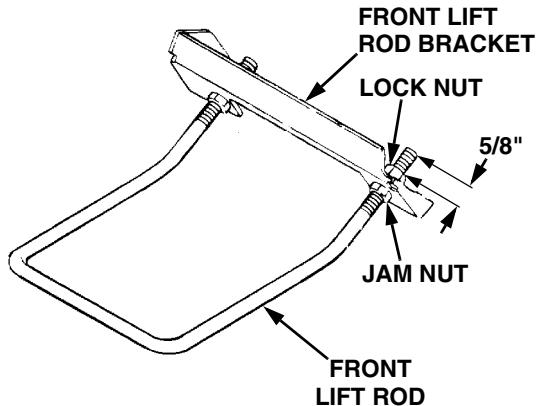

Figure 31
- Initially adjust the front lift rod to allow approximately $5/8$ inch of thread to protrude beyond both lock nuts of the front lift rod/bracket assembly (See Figure 31).
- To adjust the downward tilt of the blades, adjustment of the front lift rod is required. Refer to Figure 31 and proceed as follows: